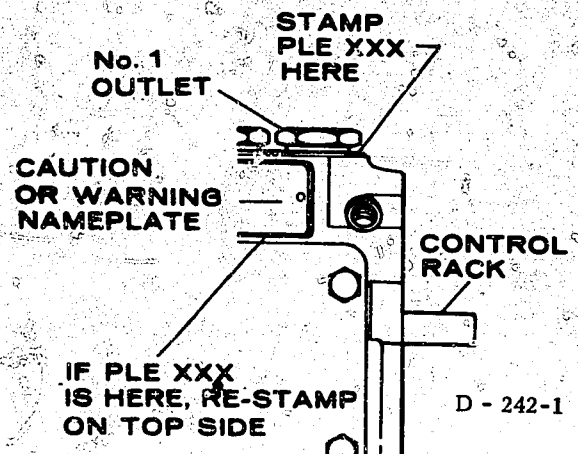

FIGURE 3 - APE 6BB
- 1.6 Early APE 6BB pumps had the "PLE" dimension stamped below the caution nameplate; when changing the dimension it should be relocated to the top of the pump next to No. 1 outlet (See Figure 3).